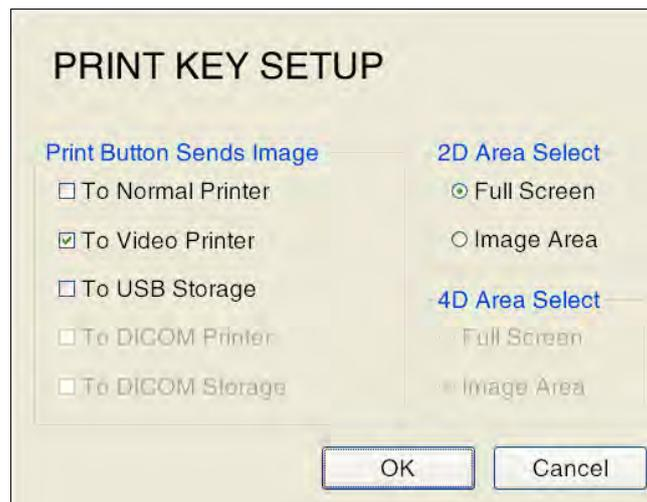

Fig. 5-13 Print key setup
**PRINT KEY SETUP** allows users to define the **Print** key function on the touchscreen. This option is not available for selection if it is not activated. Tap **Setup** on the touchscreen to bring up the **SETUP** screen. Then click on **Print Key Setup** to bring up the **PRINT KEY SETUP** screen, as shown in Fig. 5-13.